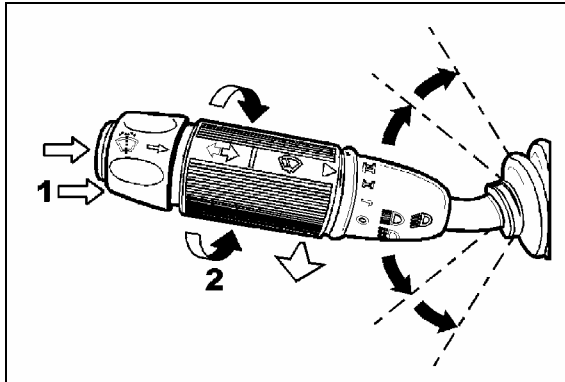

FIGURE 30: MULTIFUNCTION LEVER 23133
Turn the multifunction lever forward to activate windshield wipers (item 2, fig. 30). The first position operates the wipers at low speed and the second position operates the wipers at high speed. Turning the lever backwards will operate the wipers in the intermittent mode.
The windshield washer pumps are electrically operated and are controlled by a washer controlling ring on the multifunction lever (item 1, fig. 30).